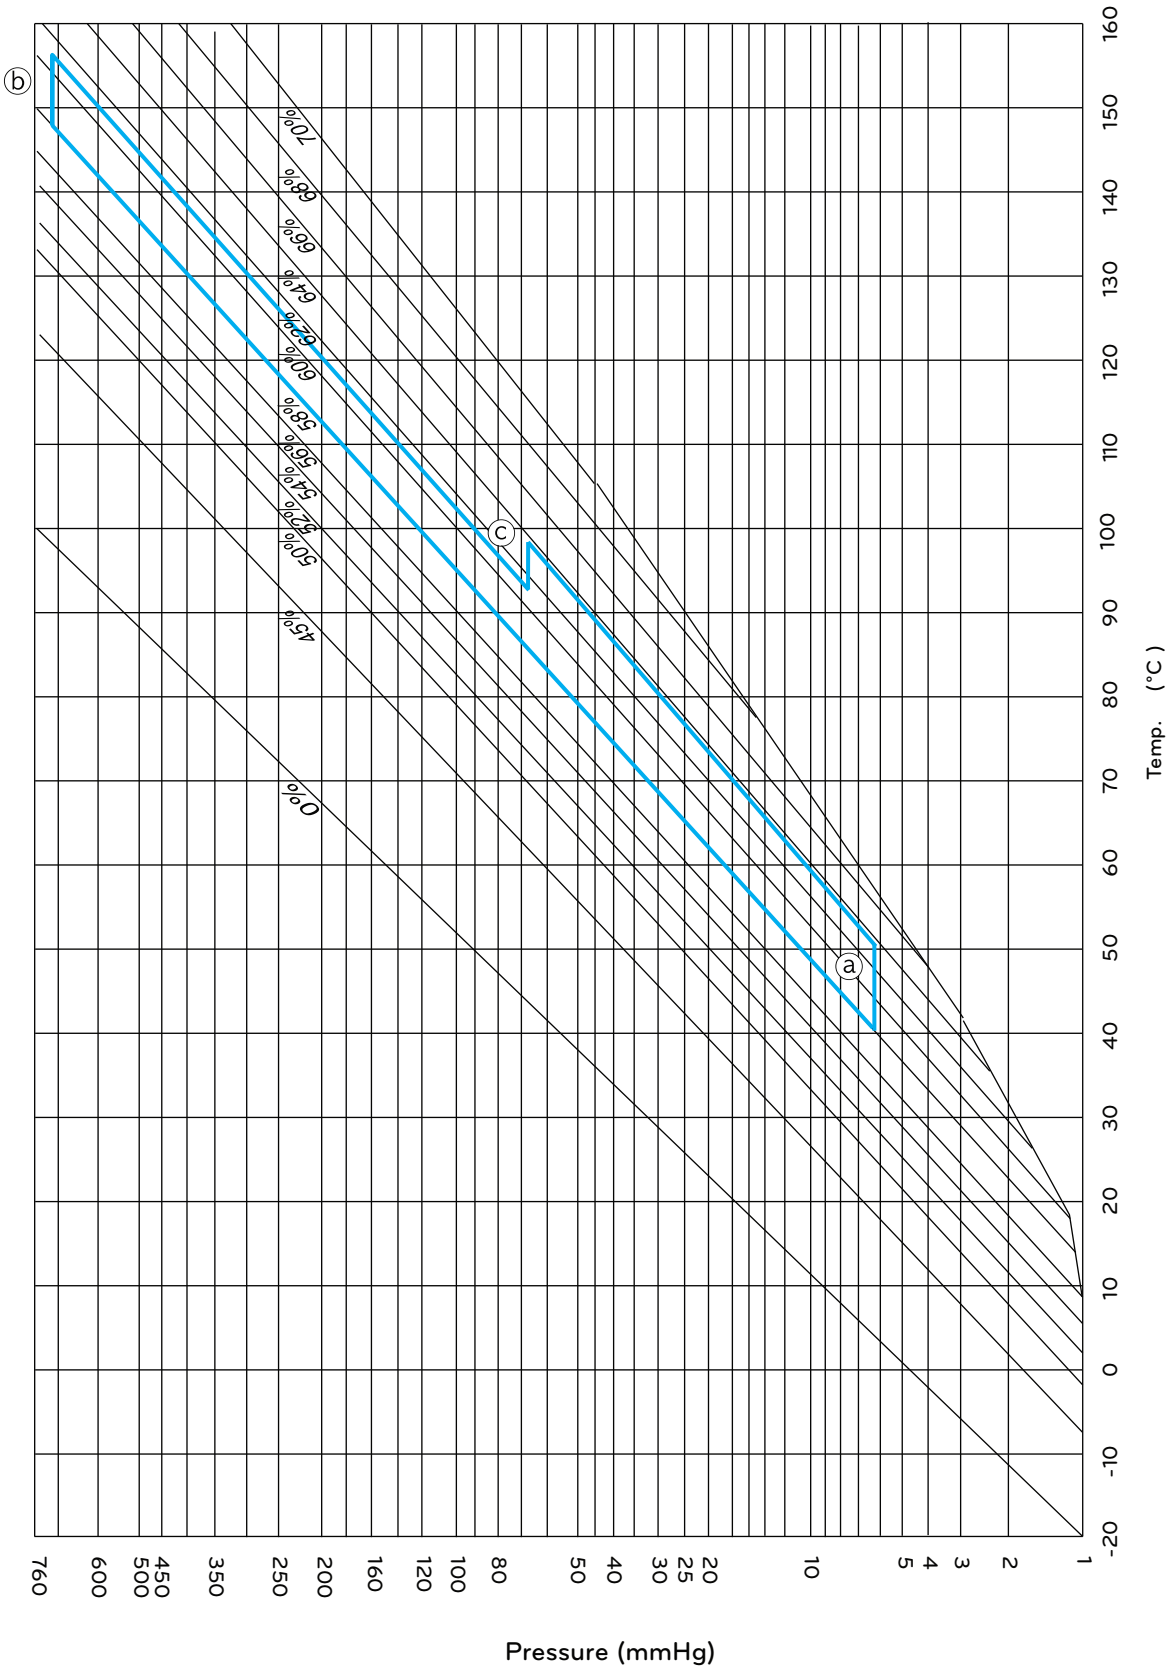

Figure 1-3. Duhring diagram
As absorbent, 'Lithium Bromide' (LiBr) solution is used. (this container is called "absorber") LiBr solution is a very powerful absorbent, however, absorptive capacity increases under a higher concentration or a lower temperature. Absorption capacity can be represented by saturation vapor pressure, and the relationship between saturation vapor pressure, concentration and temperature can be represented in duhring diagram as shown in figure 1-3.
- Refer to 2-4 Components of a chiller-heater for the function of components. Figure 1-3(Duhring diagram) shows absorption solution change of our absorption chiller-heater.